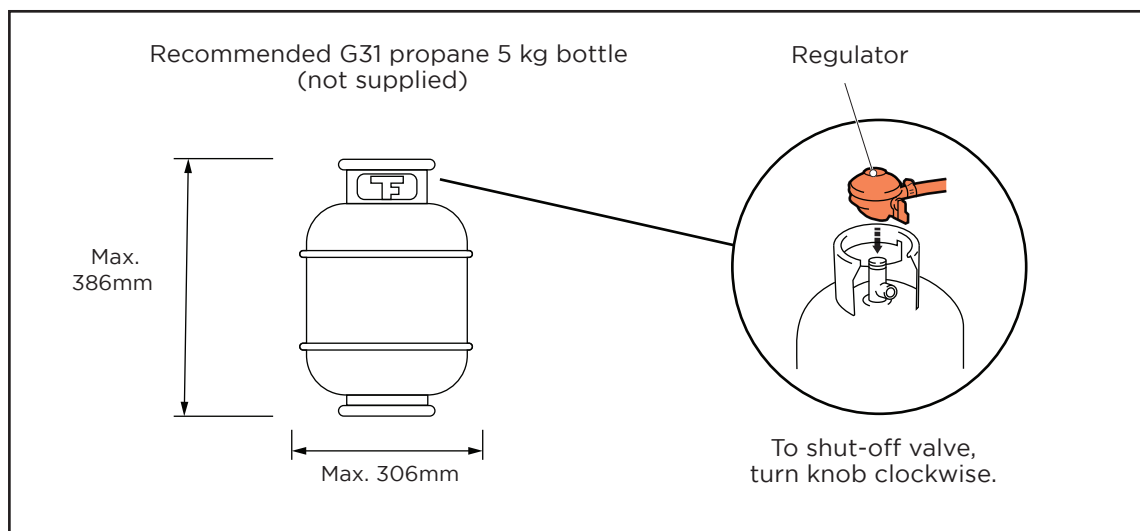

Fig.7 Gas bottle size.
- We suggest using a 5KG gas bottle, maximum height 386mm and diameter 306mm as shown in fig.7.